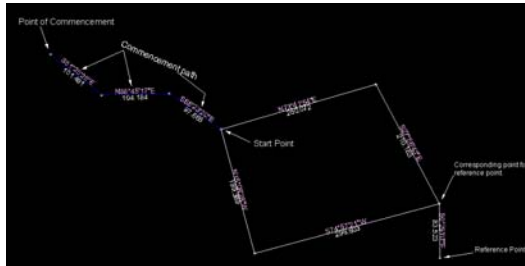

Figure 12-22. Start Point and Commencement Path
- Press **Esc** to accept this start point, or click to select your own start point and then press **Esc** (Figure 12-22).